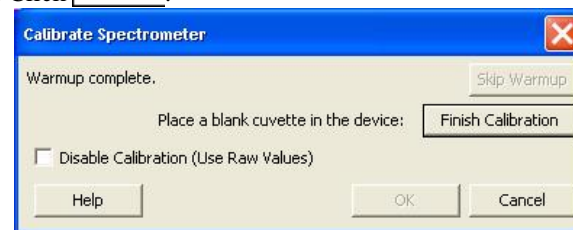

Figure 1
4. To calibrate the Spectrometer, choose Calibrate → Spectrometer from the Experiment menu. The calibration dialog box will display the message: "Waiting ...seconds for lamp to warm up." (see Figure 1) The minimum warm up time is one minute. **NOTE: For best results, allow the spectrometer to warm up for at least three minutes.** Follow the instructions in the dialog box to complete the calibration. Click .